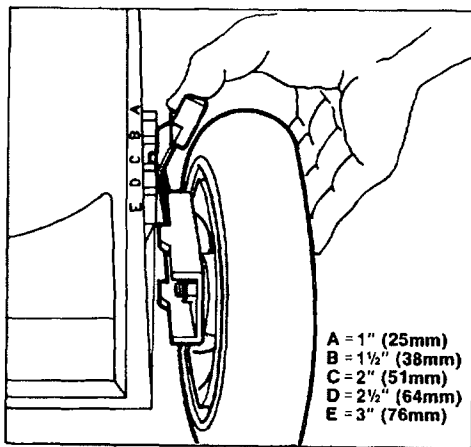

Figure 13
Five letters cast into the housing represent each graduated increment (Fig. 13).
2. For easier adjustment, lift housing up so wheel is off ground. Squeeze adjusting lever toward wheel and move them to desired setting (Fig. 13). Assure pin on adjusting lever engages notch in housing. Adjust all wheels to the same setting.